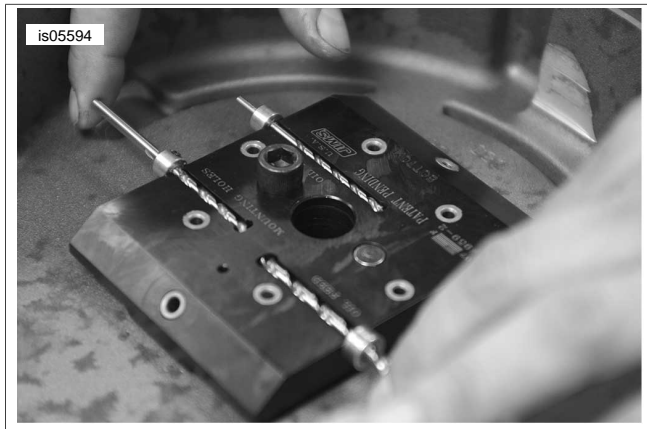

Figure 6. Installing drill bit collars
14. See Figure 21, Table 3 and Figure 6. In this step the lock collars will be installed on the drill bits using the gauges milled into the press plate.
- Place stop collar (7) over drill bit (8). Place this assembly into the milled groove labeled "OIL FEED" on the face of the press plate. Hold the drill bit firmly in the groove and slide the collar to the press plate. Torque the stop collar set screw to 10 **in-lbs** (1.1 Nm).
- Use the same procedure as above and attach stop collar (5) to drill bit (4) using the milled groove "OIL DRAIN". Torque the stop collar set screw to 10 **in-lbs** (1.1 Nm).
- Use the milled groove "MOUNTING HOLES" for stop collar (15) and drill bit (11). Torque the stop collar set screw to 10 **in-lbs** (1.1 Nm).